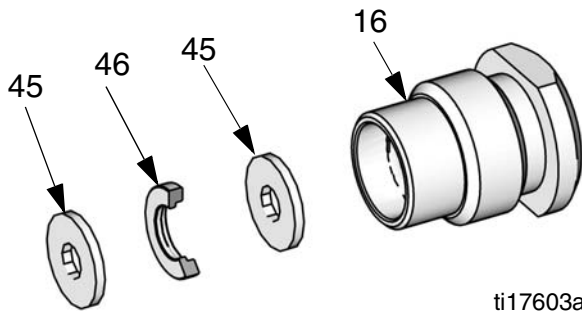

FIG. 20. Fluid packings
2. *All guns:* Reinstall the gasket (22) in the fluid housing (2).
3. Install the o-rings (8*, 9*) on the piston (3). Install the two o-rings (10*, 11*) on each of the piston stems (T). Lubricate all the o-rings, the piston, and the piston stems.
4. Remove the protective paper from the sticky side of the gasket (12*) and adhere the gasket to the bottom of the piston housing (1), making sure the three holes in the gasket are properly aligned with the matching holes in the housing.
5. Lubricate the washers (45†) and spacer (46†). Insert them into the packing nut (16) as shown in FIG. 20. The step on the spacer faces into the packing nut.